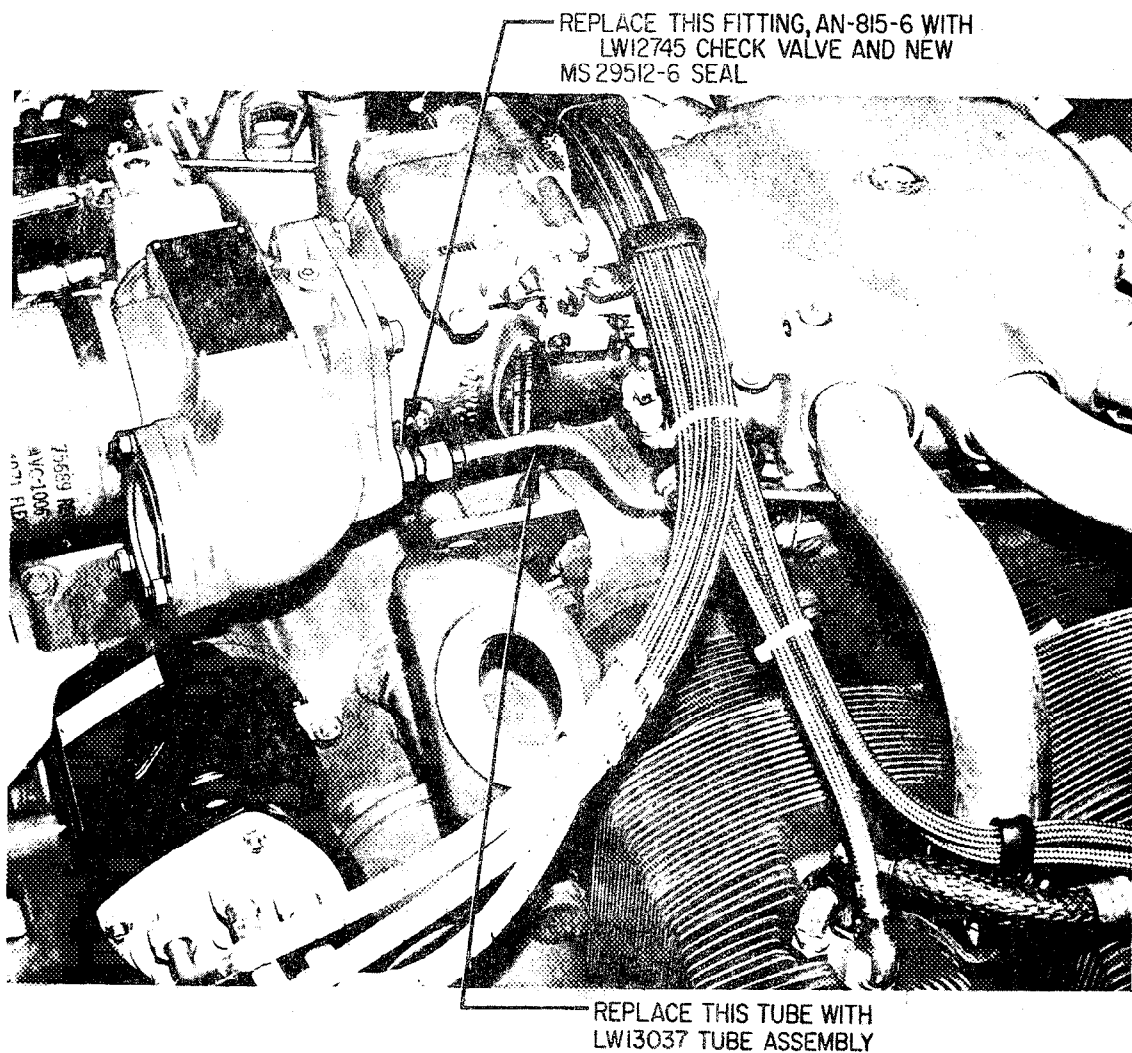

Figure 2. Top View of Engine Showing Location of Fuel Drain Tube
(1) Remove no. 77706 tube that is connected between the induction housing and the controller adapter. See figure 2. Also remove the AN-815-6 union and MS29512-6 seal from the adapter housing.
NOTE: Revision "A" adds TIGO-541 model; changes figure 2.